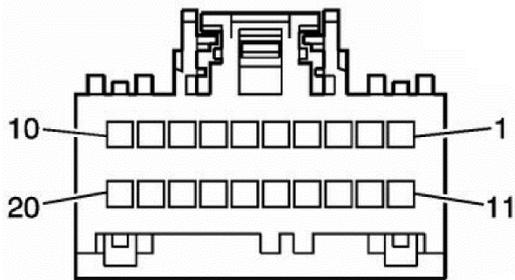

Figure 11 - P16 Combined Instrument
4. Connect, Ground, +12V feed and ignition (1,2 and 4) in the wiring harness behind the instrument cluster, see Figure 11 and Figure 13.